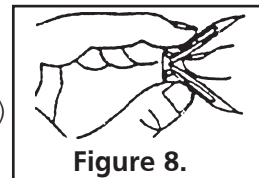

Figure 8.
2. Fold wall anchor as shown in figure 8.